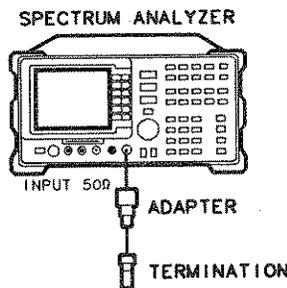

Figure 4-25. Residual Response Test Setup
1. Connect the 50Ω Termination to the analyzer's input using an adapter, as shown in Figure 4-25.